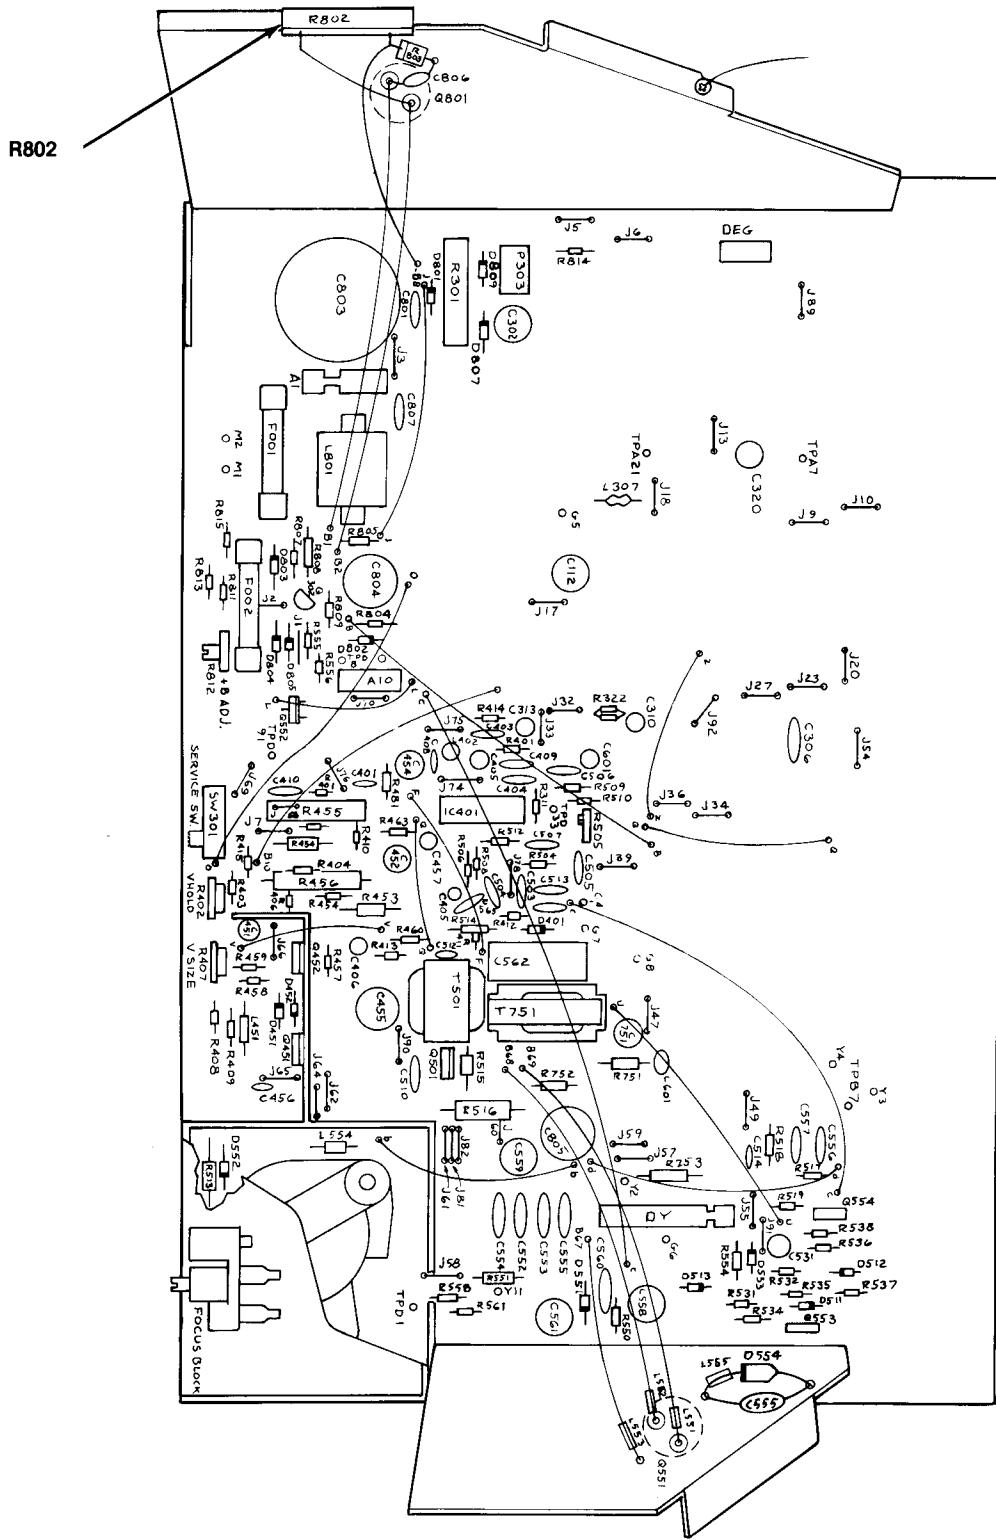

Figure 20 Location of R802 for Horizontal Oscillator Disable Test
2. Short across R802, shown in Figure 20, with a well-insulated jumper.